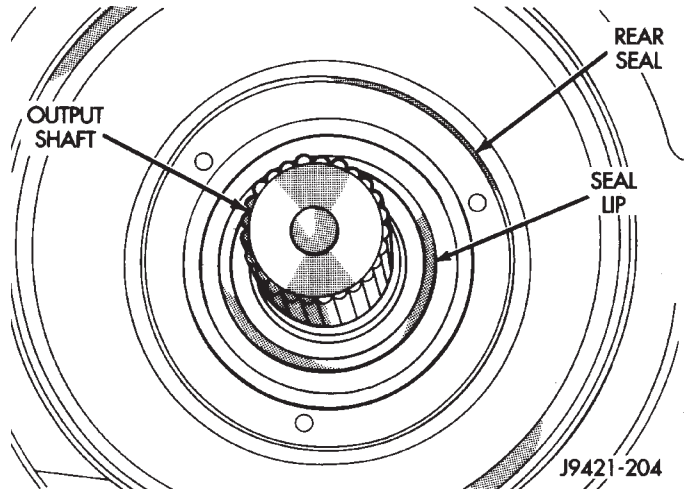

Fig. 102 Rear Seal Installation—4WD
(10) Lubricate lip of new rear seal (Fig. 102) with Mopar® Door Ease, or transmission fluid.
(11) Install new rear seal in adapter housing bore with Installer C-3860-A. Be sure seal is fully seated in housing bore (Fig. 102).